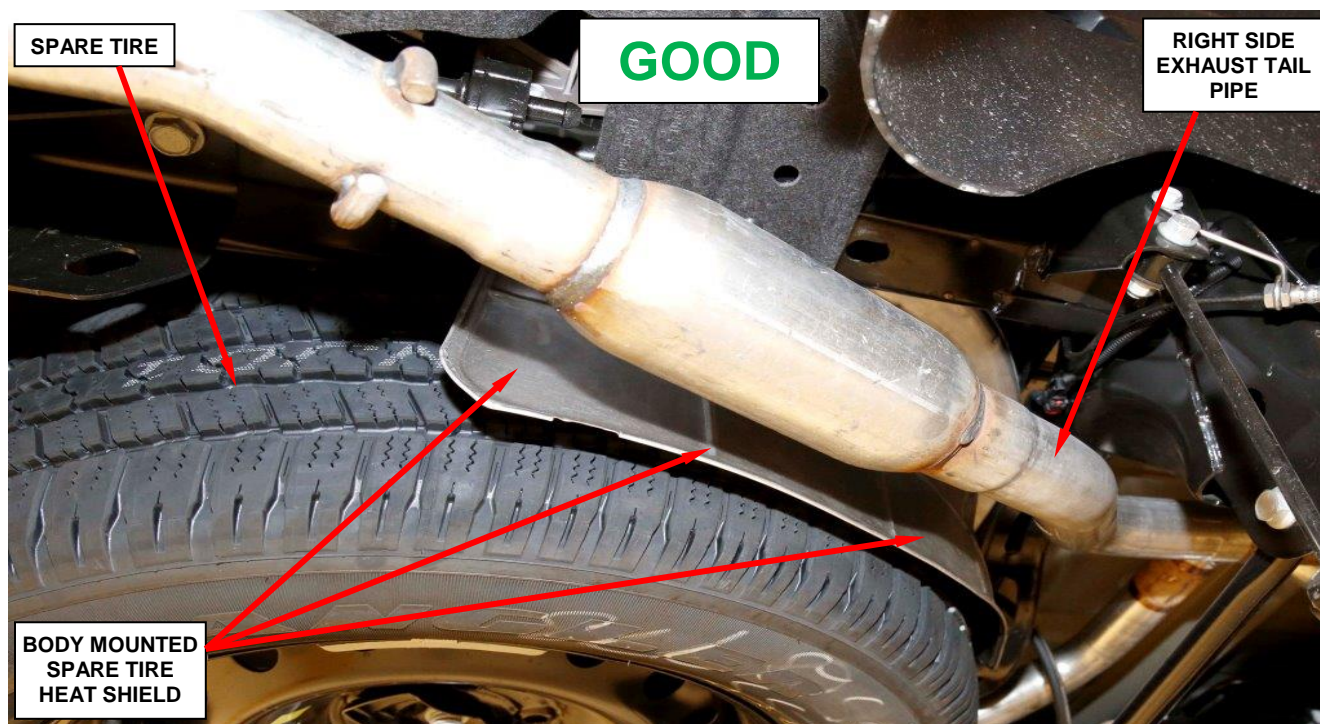

Figure 2 – Body Mounted Spare Tire Heat Shield
- If the vehicle has a body mounted right side spare tire heat shield, no further action is required (Figure 2). Lower the vehicle from the hoist and return the vehicle to the customer.